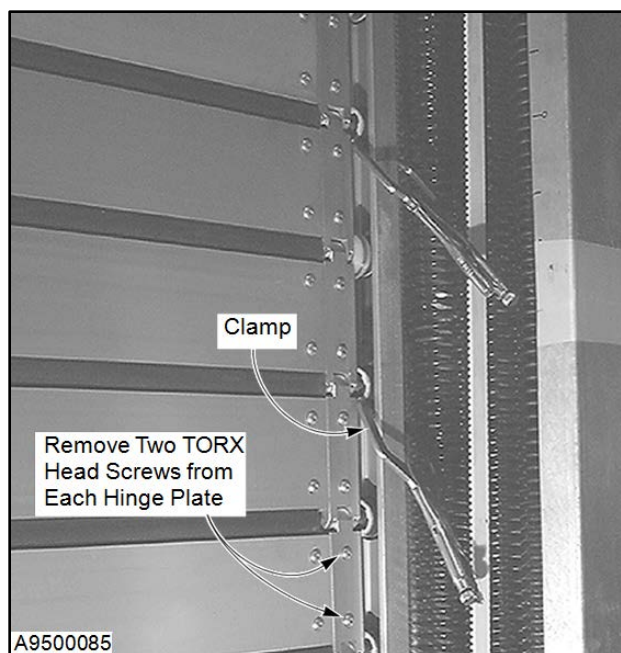

Figure 62
4. Once the door is positioned, clamp both sides of the door to the vertical track. Position clamps along both edges of the door. (See Figure 62.)